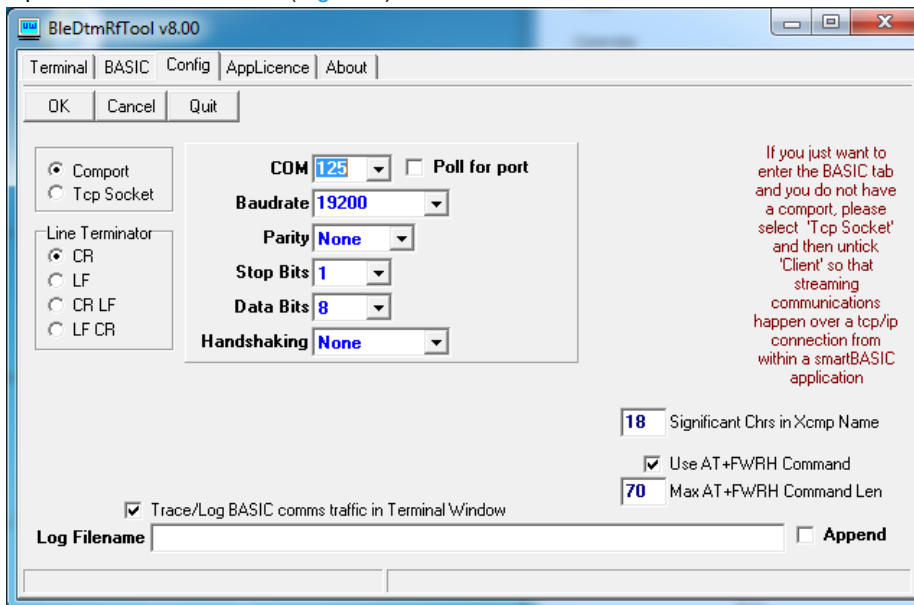

Figure 6: BleDtmRfTool UART communication settings
1. Open Laird BleDtmRfTool (Figure 6).